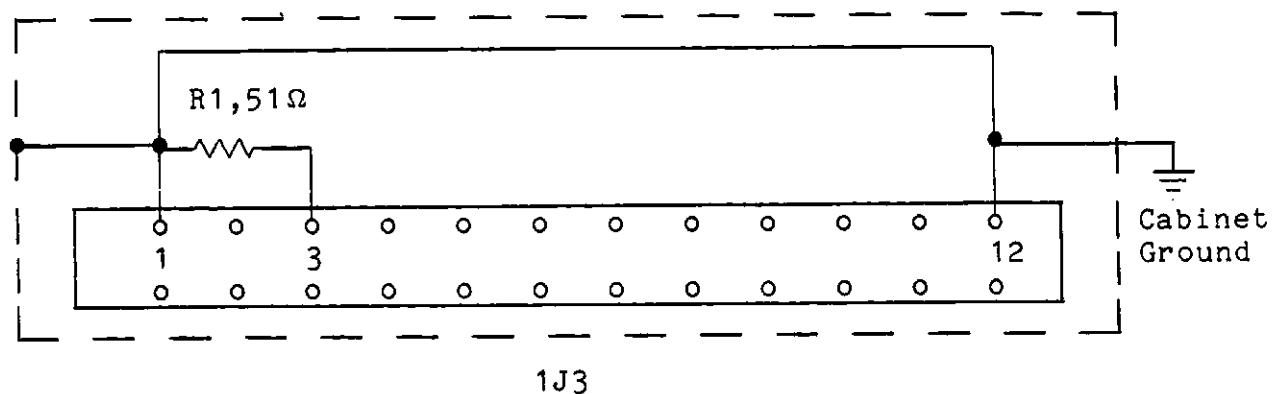

Figure 2.40. EPA Dummy Load Internal Wiring
- (1) Unplug AC power cord.
- (2) Disconnect all cables.
- (3) Reconnect W0678-8/PA Interconnect cable to dummy load (see Figure 2.40 for dummy load internal wiring).
- (4) Remove from equipment cabinet.